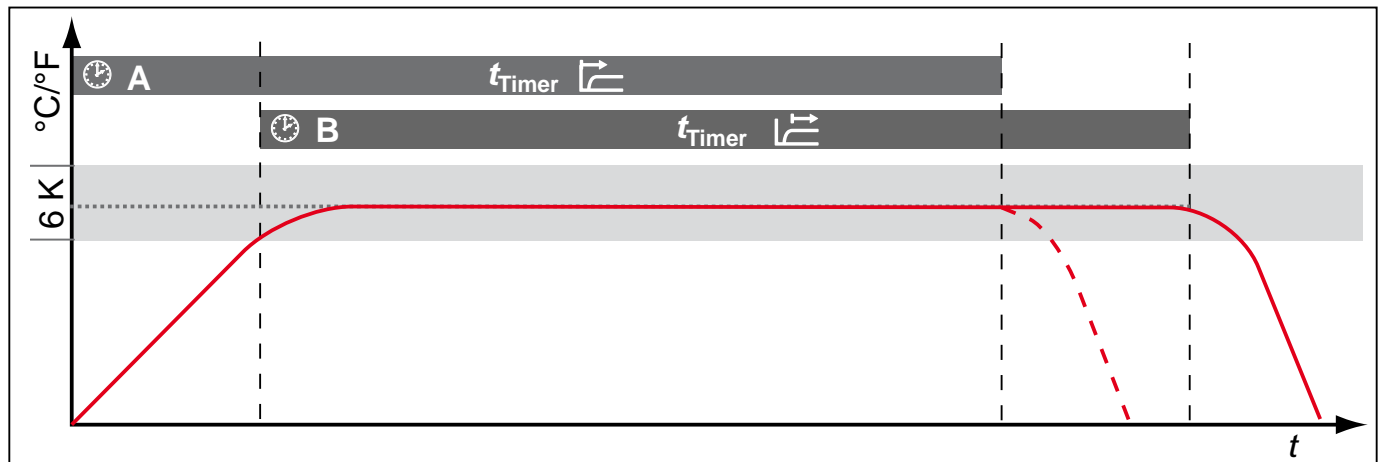

Fig. 28 Timer Mode
Here, you can choose whether the digital backwards counter with target time setting (see page 27) should run setpoint-dependent or not. This determines whether the timer should not start until a tolerance band of ± 3 K around the set temperature is reached (Fig. 28, B) or if it should start right after activation (A).